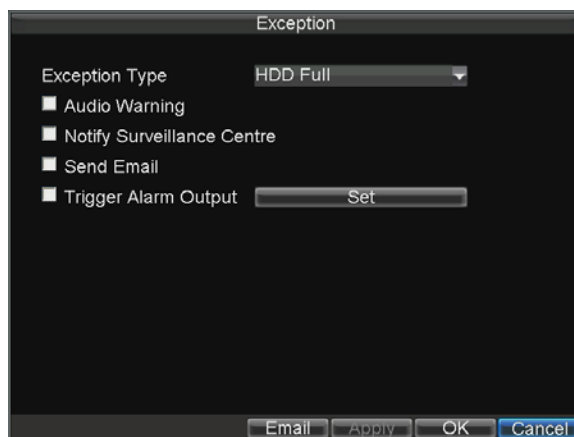

Figure19. Exception Menu
3. Select triggering options, as shown in Figure 19. Trigger options are further explained in the next section (See *Understanding Exception Trigger Options*).